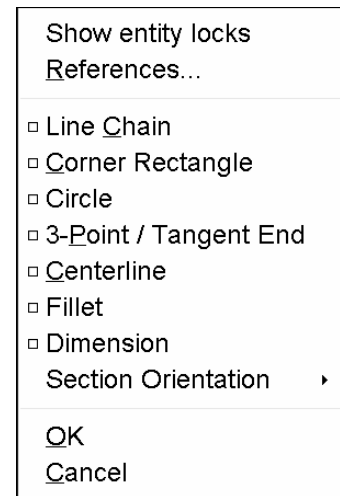

Figure 17 RMB pop-up menu in Sketcher
- hold down the RMB and select *Line Chain* from the pop-up menu (Figure 17).
Now we'll add a couple of rounded corners, technically known as fillets, on the top corners of the sketch to help us "see" the orientation of the feature in 3D. Select the **Fillet** command from the RMB pop-up menu (Figure 17) and pick on the top and right lines in the sketch close to but not at the corner. A circular fillet is created to the pick point closest to the corner. Two tangent constraints (T) are added, along with a weak dimension for the fillet radius. Do the same on the top and left lines. Middle click to return to Select mode.